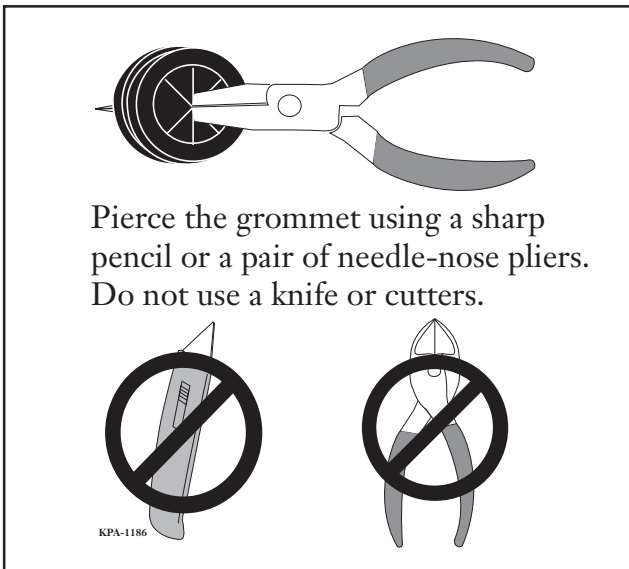

Figure 3
5.1 Determine the location for cable entry into the unit and remove the appropriate grommet. Pierce a hole as instructed in Figure 3. Grommets must fit tightly to prevent intrusion of insects, water, dirt or foreign particles. A knife may cut all the way through the grommet and cutters may cut a hole that is too large for a tight fit.